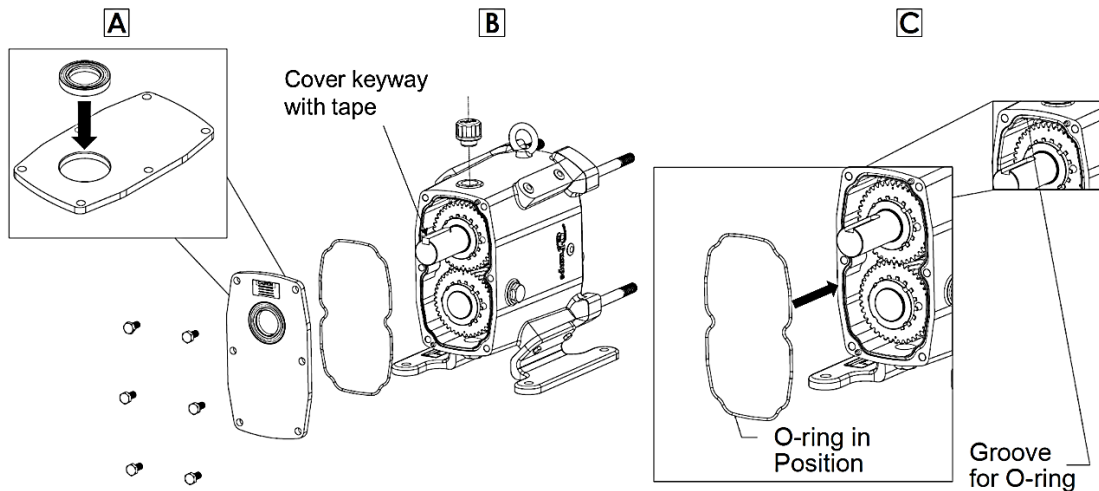

Figure 60: Gear Case Cover Assembly
12) Press the new oil seal into the gear case cover so the seal is flush with the outside of the cover and so that the spring will face the gears (Figure 60, A). Apply a silicone sealant to the edges on the back of the gear case making sure there are no gaps (Figure 60, C). Wrap the shaft keyway with tape to avoid cutting the lip seal on the shaft keyway. Apply a light film of lubricant to the inside and outside diameters of the gear case cover oil seal. Slide the back cover onto the gear case, and secure it with the retaining bolts (Figure 60, B). Install the oil plugs and fill the gear case with the recommended amount of oil using Table 2 on page 12.